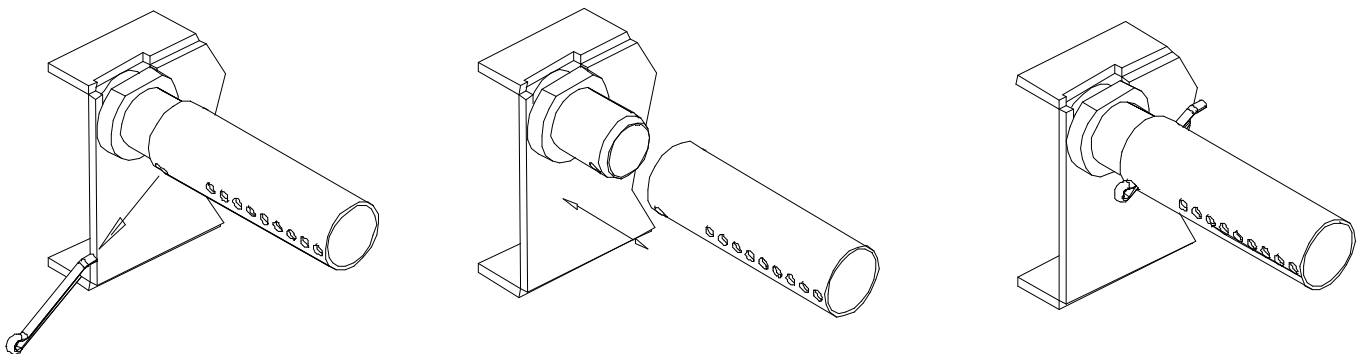

Figure 4.5 – Secondary air tube replacement
4.5 Secondary air tube replacement (see Figure 4.5)